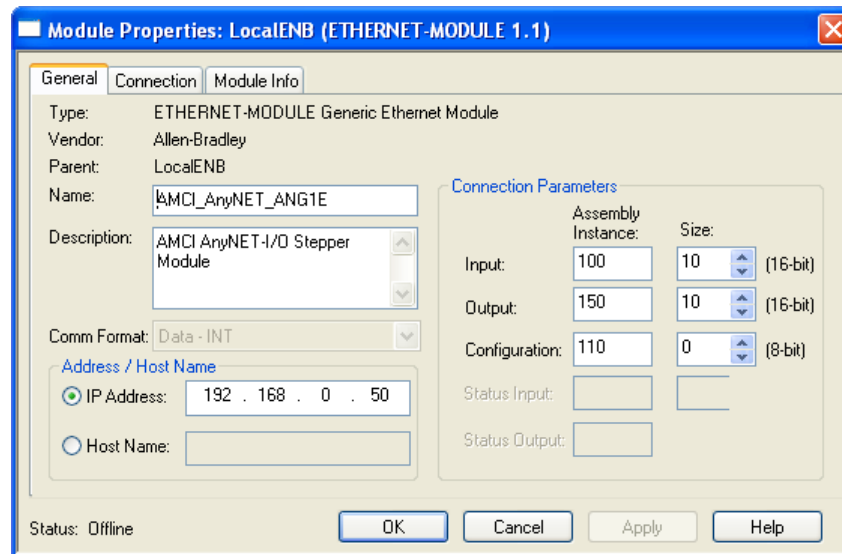

Figure 4.4 Sample AnyNET-I/O Module Configuration Screen
- 3) Set the following parameters in the Module Properties window. All parameters not listed here are optional. Figure 4.4 shows a completed screen.